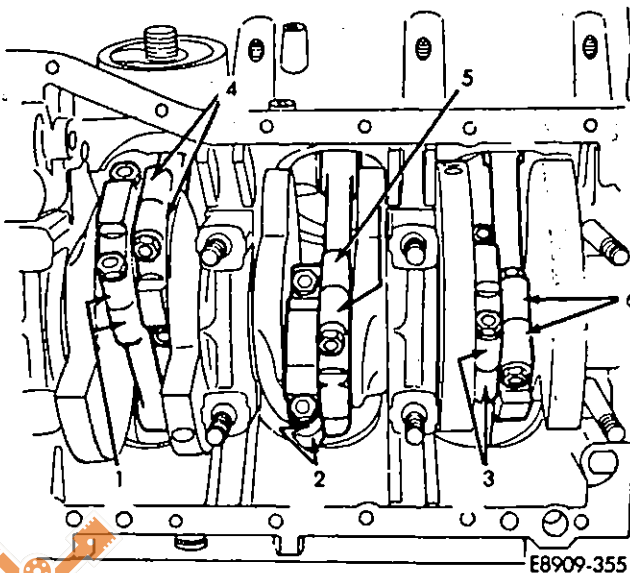

Fig. 9—Marking Connecting Rod and Caps
(10) Turn the engine over on the engine stand.
(11) If the piston-liner assemblies will be reused, reference the piston to cylinder liner to cylinder block positions using a grease pencil.
(12) Mark each connecting rod and cap with the cylinder number on the side that faces out so that the caps can be installed with the proper connecting rods (Fig. 9). Connecting rod caps cannot be interchanged.